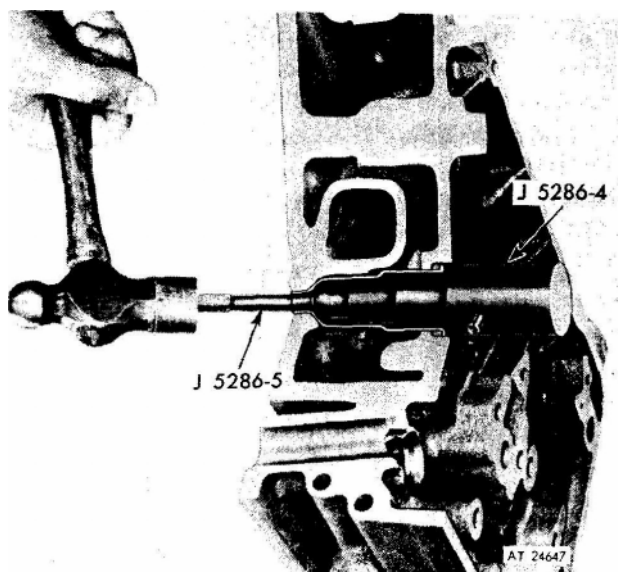

Figure 1. Fe moving injector tube.
2. Place tool J 5286-4 in the injector tube; then, thread tool J 5286-5 into the end of tool J 5286-4 (fig. 1).